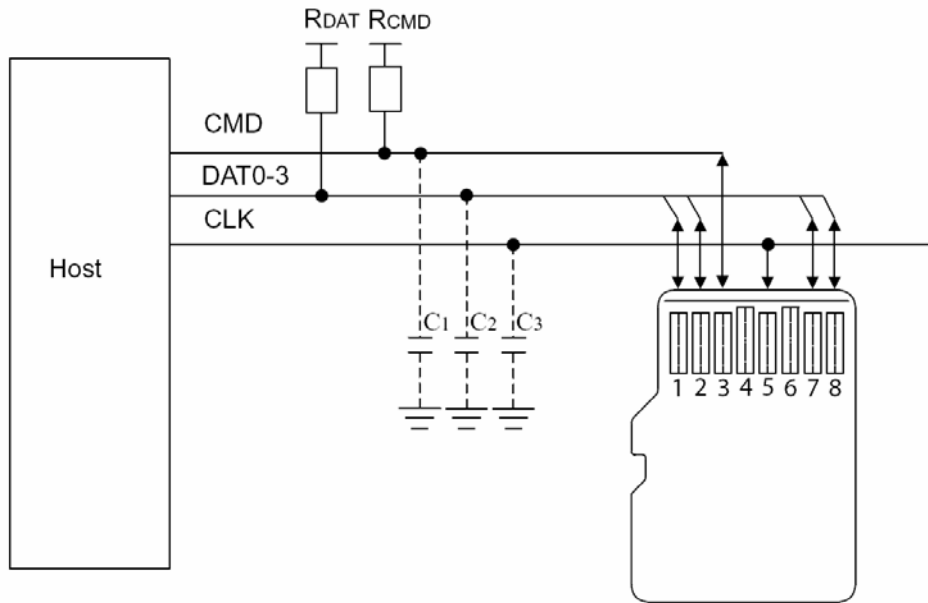

Fig 5 - microSD Card Connection Diagram
- Fig 5 - microSD Card Connection diagram